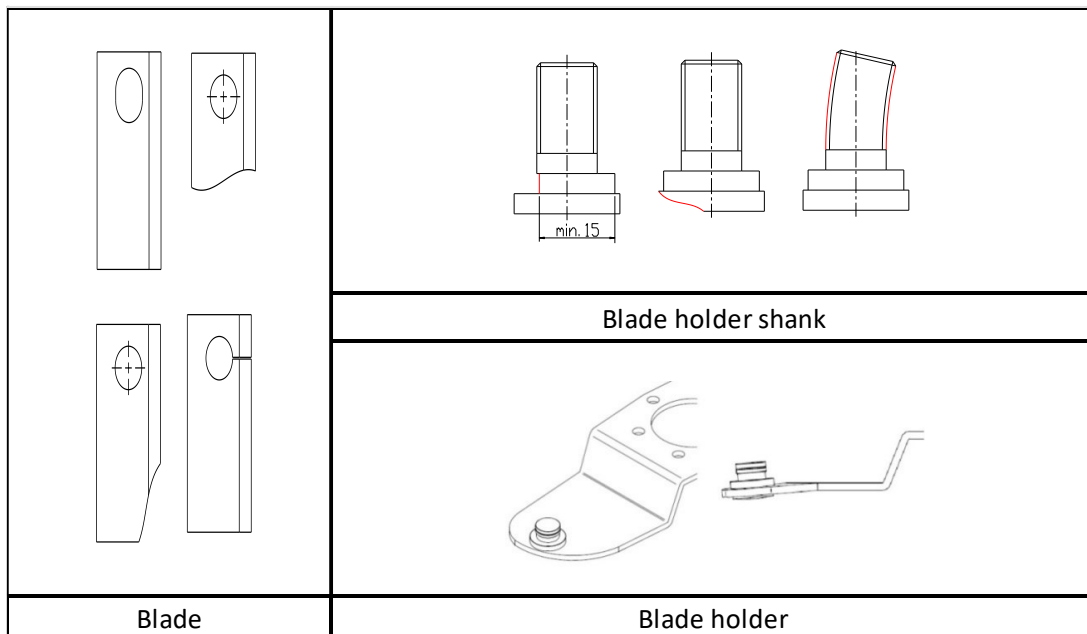
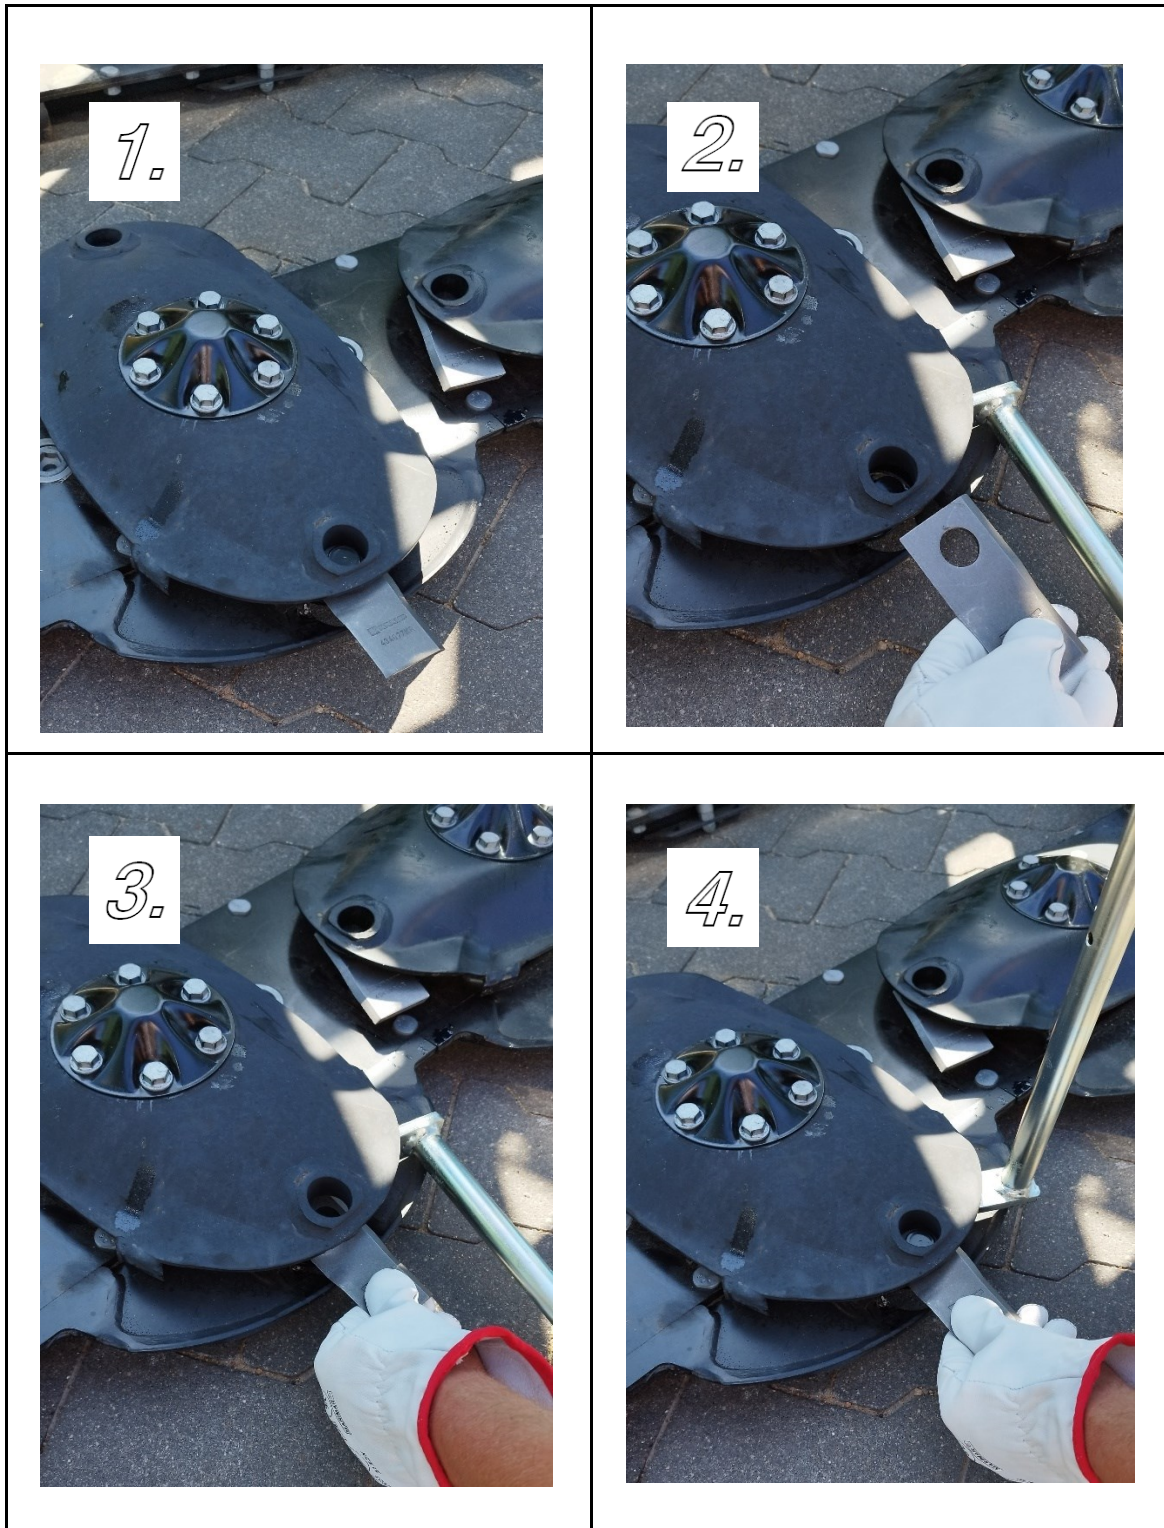

Fig. 18 Common damages
Fig. 19 Inspection, replacement and turning of blade
Replacement or turning of blade is performed by using a special wrench in accordance with the Fig. 19. Wrench is placed (picture 16 (1)) between the upper plate of the disc and the blade holder, the blade holder is tilted until it becomes loose making it possible to remove the blade 16(2). After inspecting the blade 16 (3), the blade tang and the blade holder (in accordance with the Fig. 18), the installation of the blade 16 (4) may be performed by turning the blade or replacing it.
3. Inspect the condition of the cooperating components: blade holder, blade tang, and blade. Replace with new ones if damages are observed. Fig. 18
The level of oil in the cutting bar should be checked after placing the mower on an even surface by opening the oil filler plug (A), Fig. 18. The oil level should be within the range of **13 ÷ 15** mm.